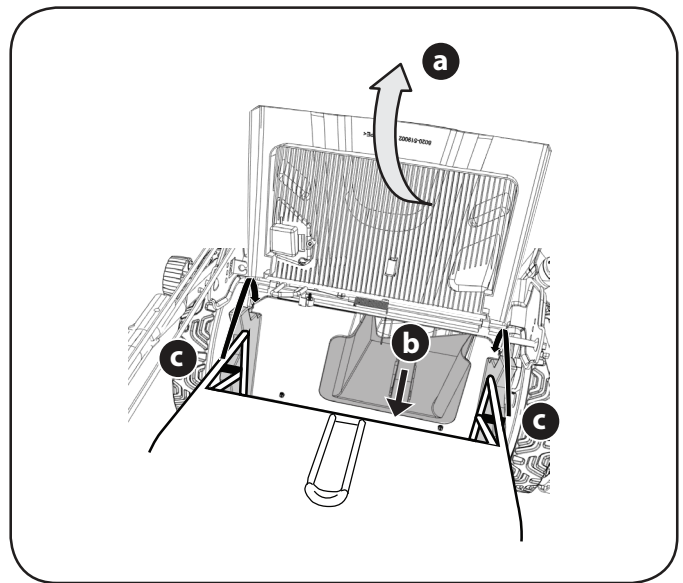
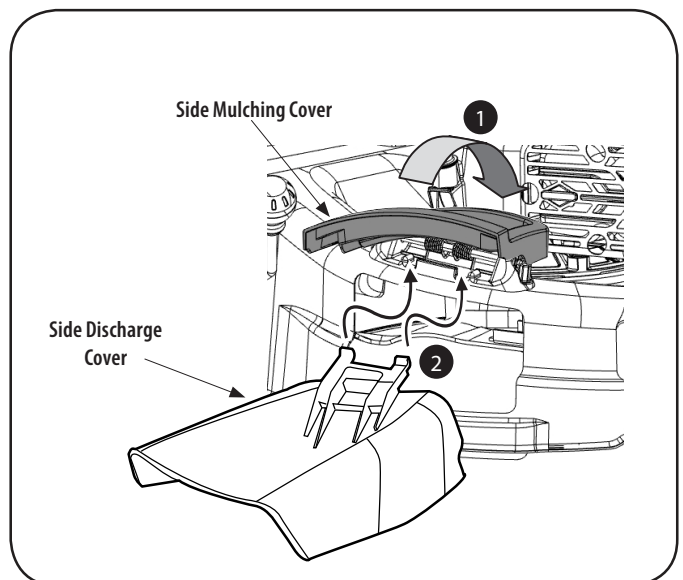

Figure 5
Figure 7
- b. Place grass catcher into the slots in the handle brackets (Figure 5). Let go of discharge door so that it rests on the grass catcher.
Your mower is shipped as a mulcher. To convert to rear discharge, make sure the grass catcher is off, the mulching plug removed, and the mulching cover is closed (Figure 5 and Figure 7).
1. On the side of the mower, lift the mulching cover (Figure 7).
2. Slide two hooks of side discharge cover under hinge pin on mulching cover assembly (Figure 7). Lower mulching cover. Do not remove side mulching cover at any time, even when you are not mulching.